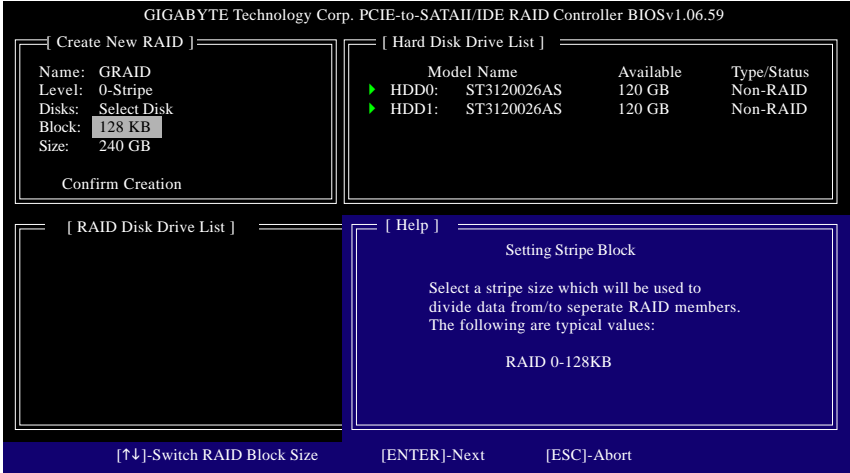

Figure 6
- 4. **Set Block Size (RAID 0 only):** Under the **Block** item, use the up or down arrow key to select the stripe block size (Figure 6), ranging from 4 KB to 128 KB. Press <Enter>.